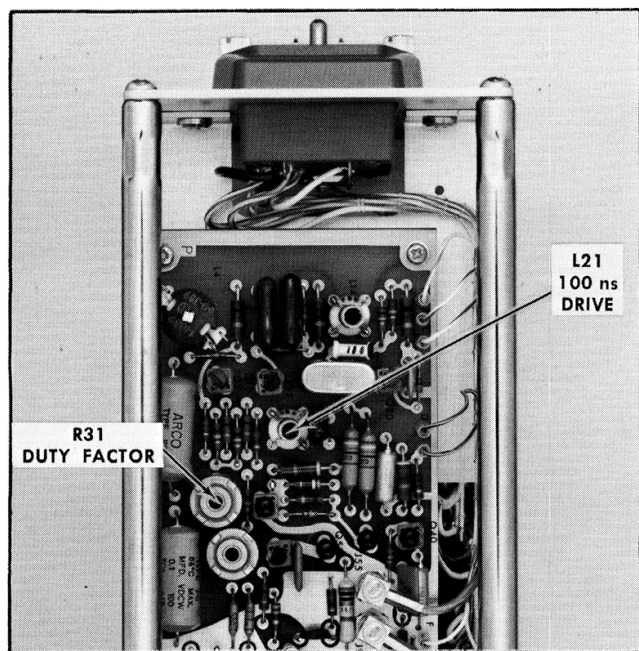
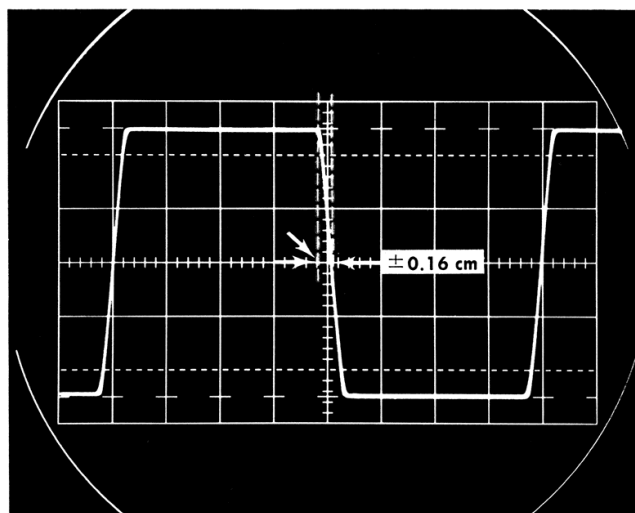

Fig. 6-10. Location of adjustments for steps 5 and 6.
Fig. 6-11. Square Wave Symmetry adjustment.
b. Use a plastic tool, item 31 on the equipment required list, and rotate L21 core slug (see Fig. 6-10 for its location) counterclockwise toward minimum inductance until the oscillations stop. Then rotate the L21 core slug clockwise toward increasing inductance until oscillations start. Rotate the core one turn clockwise and leave it.
①
b. Adjust the Variable Time/cm control, the vertical position control, and the Triggering controls to obtain a display of one complete cycle over the center 8 cm of the graticule, as shown in Fig. 6-11.
c. Adjust the Duty Factor control, R31 (see Fig. 6-10 for its location) so that the half cycle point of the display, measured at 50% amplitude, is at the graticule center vertical line, showing that this point is 50% of the full cycle time.
e. Obtain a display similar to Fig. 6-11, and check that the midpoint of the cycle is within ± 0.16 cm of the graticule center vertical line, measured at the 50% amplitude point; showing that the midpoint is between 48% and 52% of one cycle.